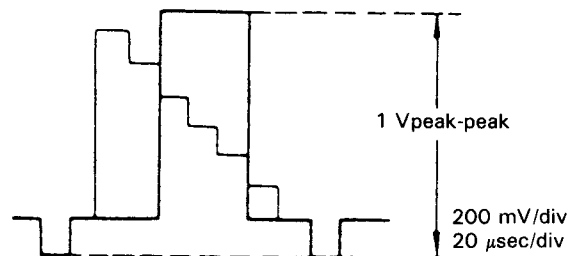

Figure 2-3.
4. Connect a frequency counter to ⑤ Pin of IC201 and adjust R216 (FM carrier) so that the reading becomes 3.8 MHz.
6. Connect the oscilloscope (external trigger: TP2201) to video output (75 Ω terminal). When the auto record and playback level is less than 1.0Vp-p, turn R222 (deviation) counterclockwise; when it is more than 1.0 Vp-p, turn R222 clockwise. Repeat this until the reading becomes 1.00 ± 0.05 Vp-p. (Refer to Fig. 2-3)
7. Unplug the standard colour bar and input a pin plug and short circuit the input. Connect a frequency counter to ⑤ Pin of IC201 and confirm that the reading is 3.8 MHz.